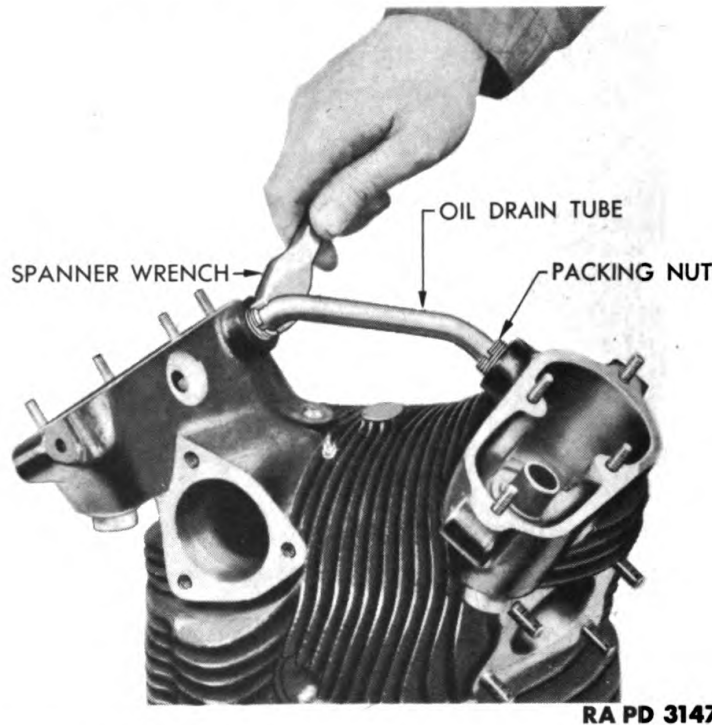

Figure 103 — Loosening Packing Nut on Drain Tube
e. Remove Oil Drain Tubes. Remove any oil drain tube between cylinder rocker boxes which shows evidence of damage or leakage at the seals. Loosen packing nuts at both ends of drain tube (fig. 103) with spanner wrench. Slide packing nuts, seals, and washers up on tube. Slide tube into one rocker box to disengage other end of tube (fig. 104). Rotate tube and pull end out of other rocker box. Clean out rubber seal or fragments of seal from recess in rocker box.
a. Install Oil Drain Tubes. Install each oil drain tube removed. Place new rubber seal, washer, and packing nut on each end of tube (fig. 104). Insert one end of tube in rocker box. Rotate tube to line up other end with opening in other rocker box. Center tube between rocker boxes. Push seals and washers into place and start packing nuts carefully by hand (fig. 103). Be very careful not to cross the threads. Tighten nuts (fig. 103) with spanner wrench.